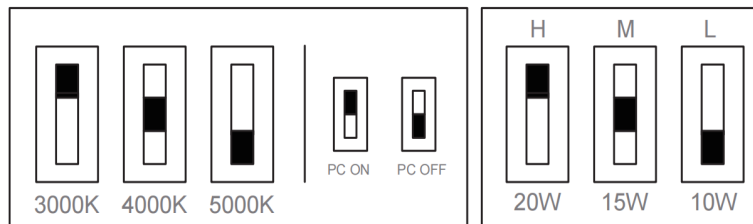

Figure 2
2. Select desired wattage or CCT by the DIP switches. See figure 2.